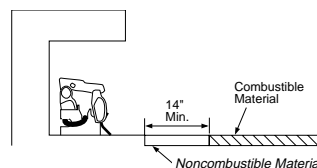

Figure 8 - Minimum Fireplace Clearances If Installed at Floor Level
- If installing appliance on the floor level, you must maintain the minimum distance of 14" to combustibles (see Figure 8).